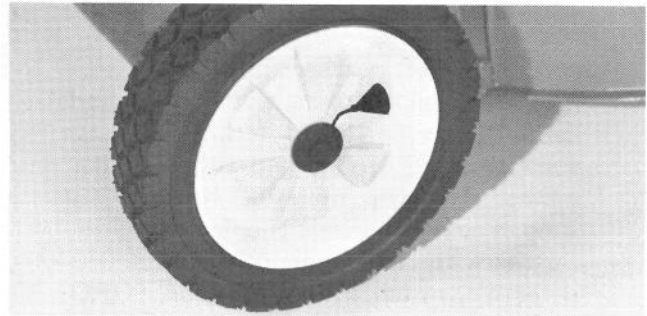

Figure 17
1. After every 25 hours of operation or at the end of the mowing season, apply 2 or 3 drops of light oil on the inside of all the wheel bolts (Fig. 17). Spin the wheel to distribute oil into the wheel bushings. Wipe up any excess oil.